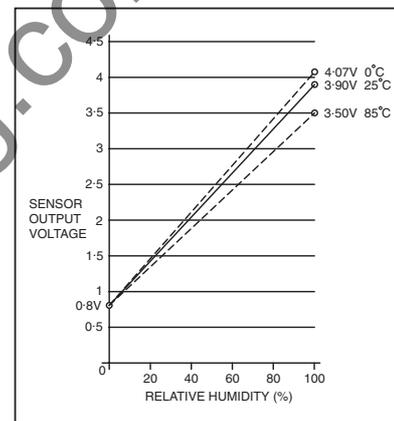

Fig. 2. HIH3605 output voltage for 0% to 100%RH.
3.90V for 0%RH to 100%RH at 25°C. The change in this span with temperature is small enough to be ignored for this project, see Fig.2. For example, the 100%RH value drops to 3.50V at 85°C which is a higher temperature than likely to be encountered with this meter. But automatic temperature correction is a simple matter for high temperature applications.